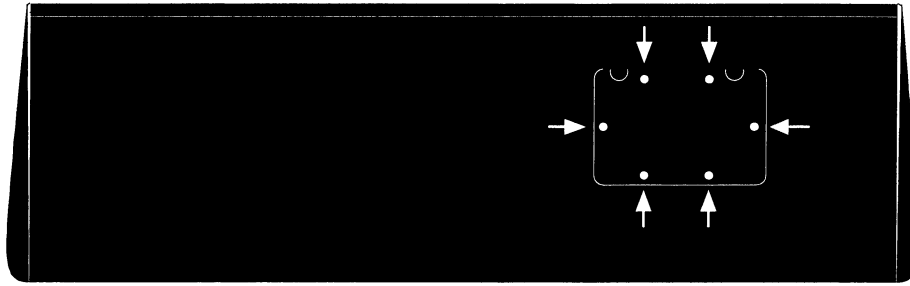

Figure 6 - MR-76 Screw Locations
6. With the MR-76, you will need to remove the access cover from the bottom of the unit. Remove the 6 screws and remove the access cover from the bottom of the unit (figure 6).